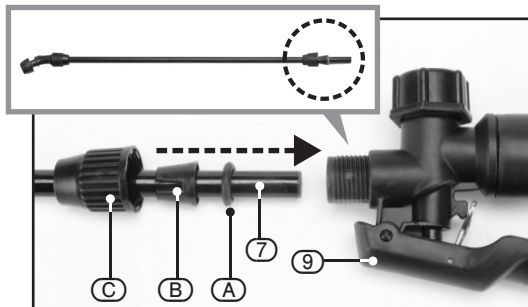

FIG.9
## 8.3 LANCE ASSEMBLY – FIGS. 9 – 10
- If not already in place, make sure the rubber gasket (A) and compression fittings (B) and (C) are arranged onto the lance (7) in the correct order, as shown in FIG.9.
- Slide the the end of the lance into the trigger assembly (9).